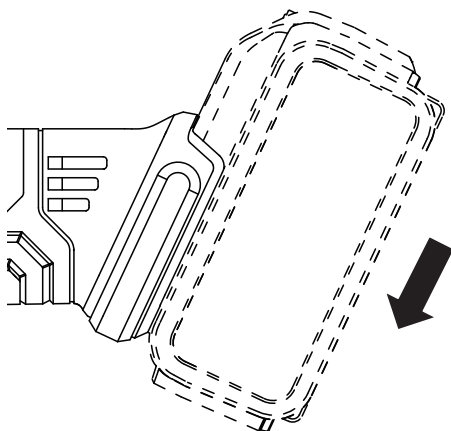

Figure 6
4. INSTALLING OR REMOVING THE BATTERY PACK (NOT SUPPLIED) (SEE FIG. 6, 7)